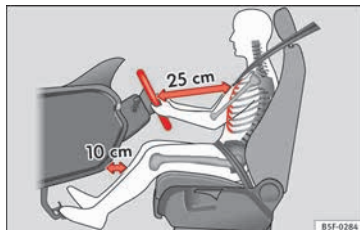

Fig. 83 The proper distance between driver and steering wheel
- Adjust the steering wheel so that there is a distance of at least 25 cm between the steering wheel and the centre of your chest » **Fig. 83.**
the chest and the centre of the steering wheel » **Fig. 83**. If you are sitting closer than 25 cm, the airbag system cannot protect you properly.